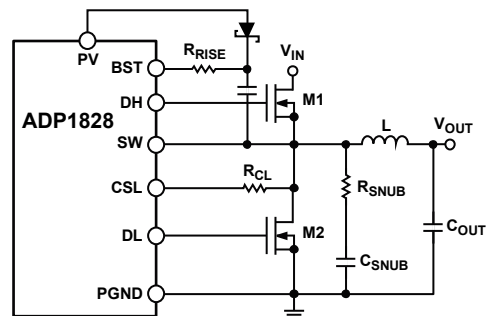

Figure 41. Application Circuit with a Snubber
In any high speed step-down regulator, high frequency noise (generally in the range of 50 MHz to 100 MHz) and voltage overshoot are always present at the gate, the switch (SW), and the drains of the external MOSFETs. The high frequency noise and overshoot are caused by the parasitic capacitance, C_{gd} , of the external MOSFET and the parasitic inductance of the gate trace and the packages of the MOSFETs. When the high current is switched, electromagnetic interference (EMI) is generated, which can affect the operation of the surrounding circuits. To reduce voltage ringing at the drain of the MOSFET, an RC snubber can be added between SW and PGND, as illustrated in Figure 41. In most applications, R_{SNUB} is about 2 Ω , and C_{SNUB} about 1.2 nF. R_{SNUB} and C_{SNUB} can be calculated using the following equations:
In most applications, a size 0805 component is sufficient. The use of the RC snubber reduces the overall efficiency, generally by an amount in the range of 0.1% to 0.5%. However, the RC snubber cannot reduce the voltage overshoot. A resistor, shown as R_{RISE} in Figure 41, at the BST pin could help to reduce overshoot and is generally between 1 Ω and 5 Ω .